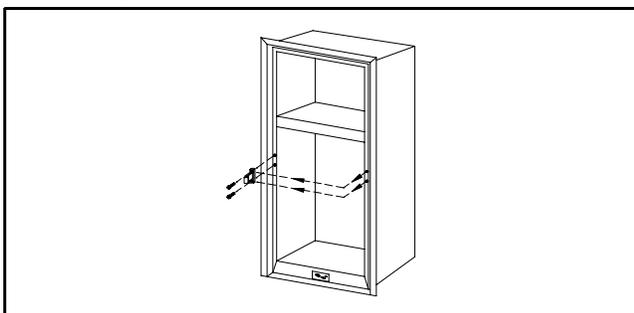

Figure 11
- Remove both travel latches by taking out the two screws holding each to the refrigerator. Use the #2 phillips screwdriver. Remove the two hole plugs from each of the corresponding holes on the opposite side of the refrigerator. Relocate them in the two holes just exposed by the removal of the latches. Using the two screws, attach each latch in the new position so the tab points towards the opposite side of the refrigerator. Do not tighten screws completely. (See Figure 11)